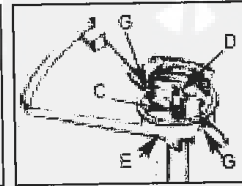

Fig. 9E
7. Lead spring (C) over spool (D) and thread line ends to eyelets (G) in housing (E) (Fig. 9E).
8. Insert reel into housing (E) while pulling line ends through eyelet (G). Make sure the spring is correctly positioned against reel and housing (Fig. 9E).